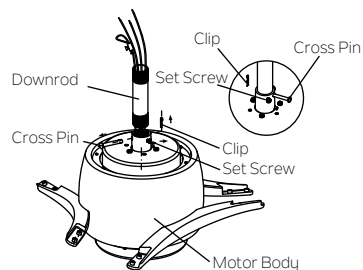

Fig. 7
Step 3. Loosen the two set screws and remove the cross pin and hitch clip the top coupling of the motor body. Carefully feed the fan wires and up safety cable up through the downrod. Thread the downrod onto the motor coupling until the cross pin holes are aligned. Next, replace the cross pin and clip, and tighten both set screws. (Fig. 7)